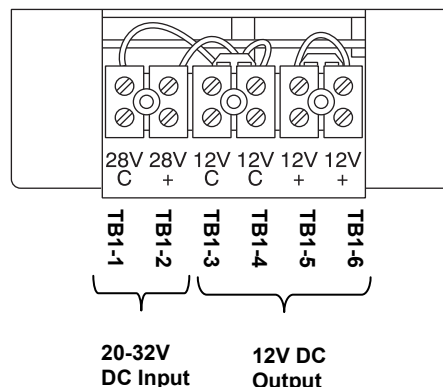

Figure 1. TB1
- The view shown in figure 1 is for a TB mounted to the bottom of the baypan. For a TB mounted to the top of the baypan, the view is rotated 180° .